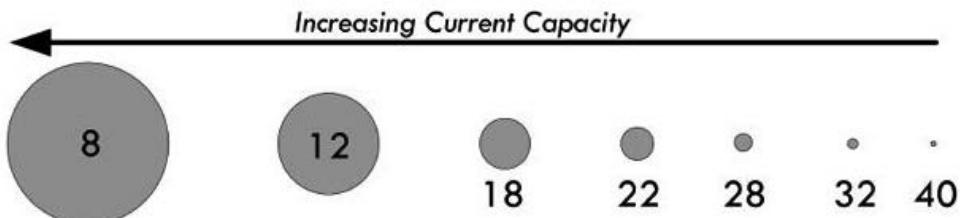

FIGURE 2.26
†A circular mil (CM) is a unit of area equal to that of a 1-mil-diameter circle. The CM area of a wire is the square of the mil diameter. Diameters of wires in Fig. 2.26 are relative and not to scale.